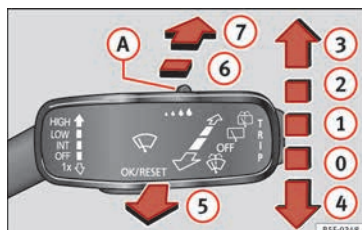

Fig. 34 Operating the windscreen wiper and rear wiper
- 1** Windscreen wipers interval wipe. Using the control » **Fig. 34 (A)** adjust the interval (vehicles without rain sensor), or the sensitivity of the rain sensor.